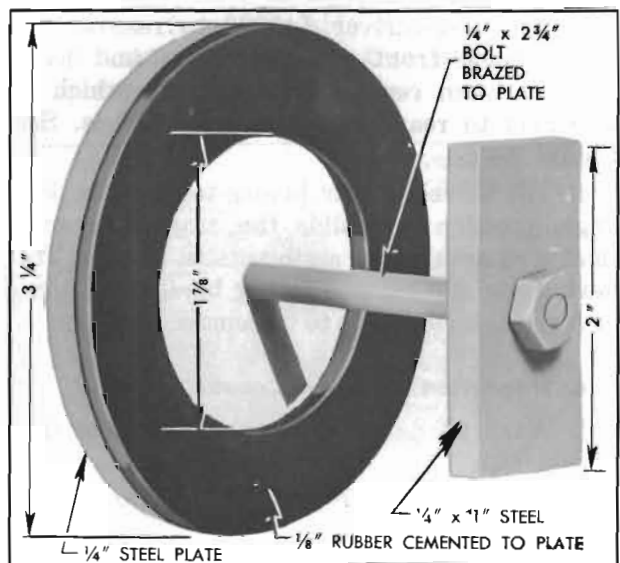

Figure 5-52—Plate and Washer for Pump Test
1. Prepare a plate with rubber washer to close the opening in converter pump hub, as shown in Figure 5-52. The bolt head should be